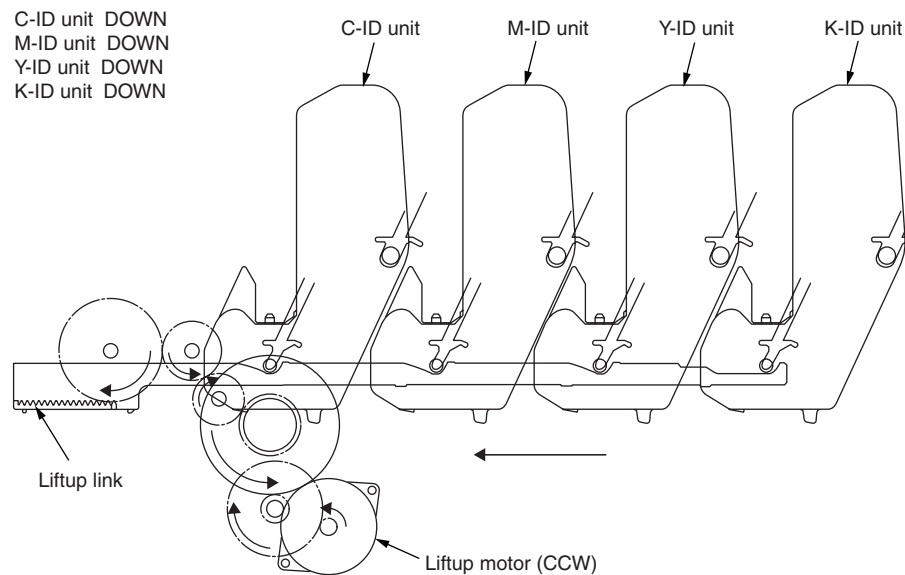

Figure 2-6
2. Fig. 2-6 shows the operation of each ID unit when color printing. When the liftup motor is rotated (counter clockwise), the liftup link slides to left, and each ID unit is in DOWN condition as shown in Fig. 2-6. Under this condition, the color printing is available.